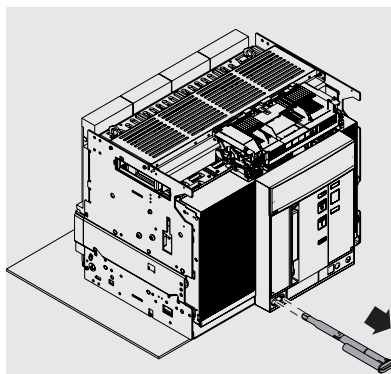

Figure 43
8. Extract the disconnection crank from its housing See Figure 43.